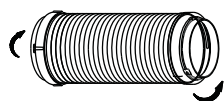

Fig. 18
1. Install the window exhaust adaptor onto the exhaust hose as shown in Fig. 18. Refer to the previous pages for window kit installation.